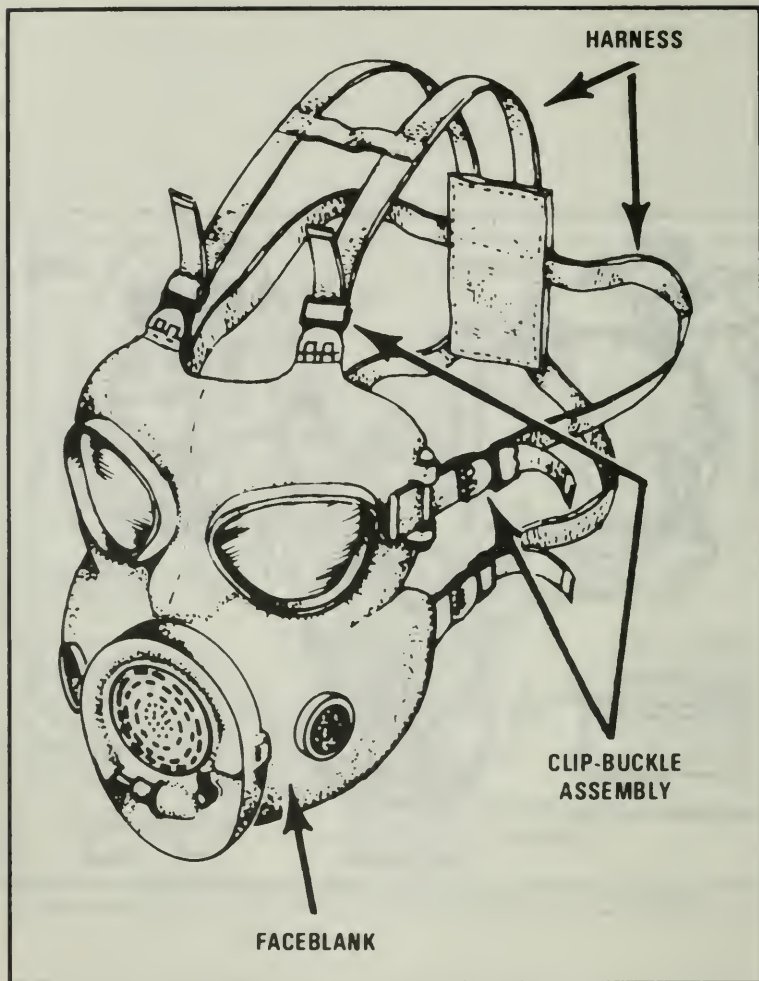

Figure 241. Faceblank, clip-buckle assembly, and harness.
2. Check the faceblank for the following problems (Figure 241).
4. Check the clip-buckle assembly for the following problems (Figure 241).